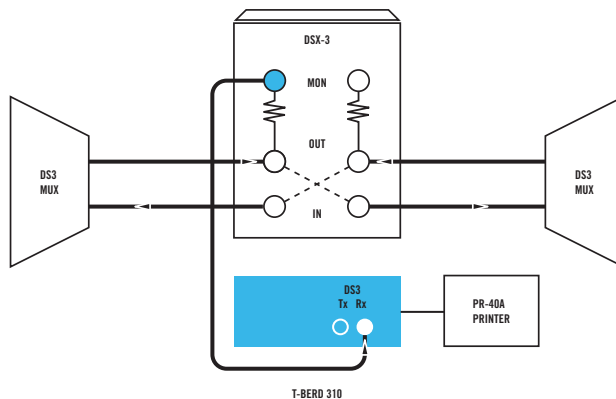

Figure 7 In-service test connections for pulse shape and signal level
1. Connect a cable from the DSX monitor jack to the DS3 RECEIVE connector on the front panel of the T-BERD 310, as shown in figure 7.